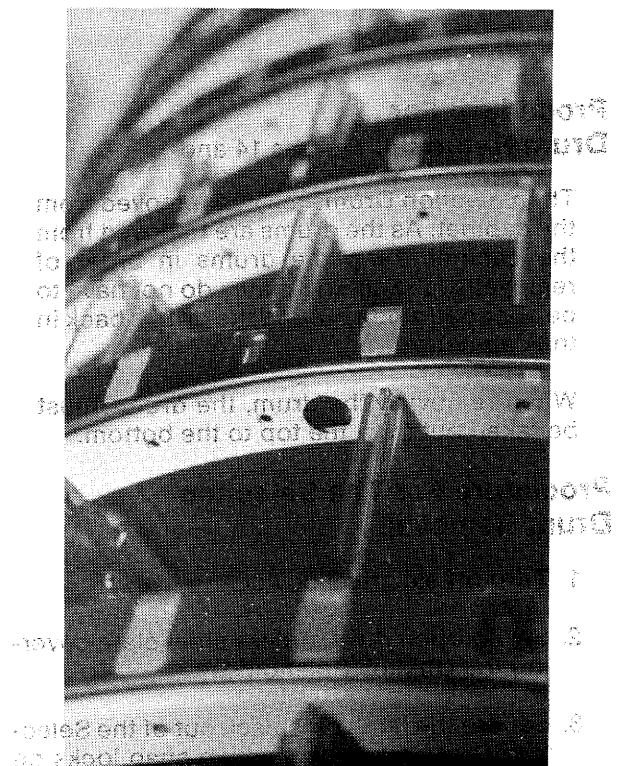

Figure 11
3. Rotate the Selection Drum, below the drum that is receiving the spacer, until the large hole on the upper place is below the spacer being added to the upper drum. (See Figure 11)